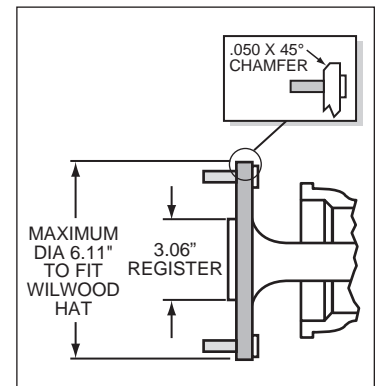

Figure 5. Axle Flange Maximum Dimension
- Maximum axle flange diameter must be no larger than 6.11” w/.050” x 45° chamfer (see Figure 5).